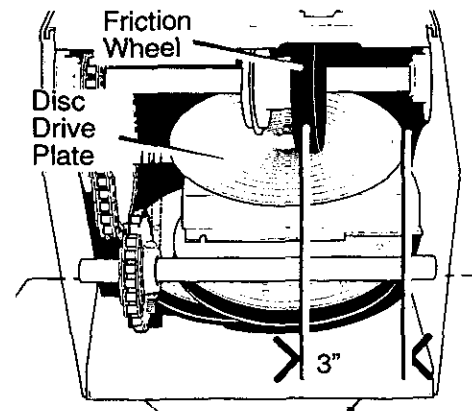

Figure 29
7. Note the position of the **friction wheel** on the **disc drive plate** (See Figure 29). In the correct position, the right outer side of the **disc drive plate** must be three inches (7.62cm.) from the center of the **friction wheel**. If the **friction wheel** is not in the correct position, adjust as follows.